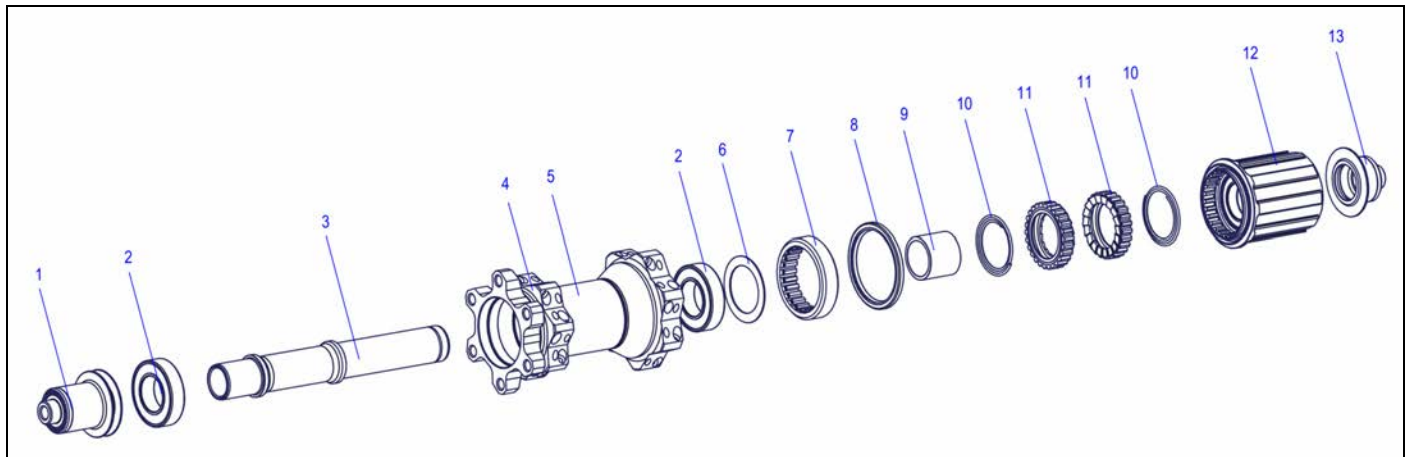

Figure 4-1: Overview: Ratchet System
1. Clamp the left end cap (fig. 4-1/1) into a vise.
3. Clamp the left end cap (fig. 4-1/13) into a vise.
5. Pull the rotor (fig. 4-1/12) off the hub.
6. Take the springs (fig. 4-1/10), the star ratchet (fig. 4-1/11) and the spacer (fig. 4-1/9) off the hub.
4. Put on the spacer (fig. 4-1/9) and the first spring (fig. 4-1/10). The big diameter of the spring must be placed on the bearing of the hub.
- Put on both star ratchets (fig. 4-1/11) and the second spring (fig. 4-1/10). The small diameter of the spring must be placed on the star ratchet.
- Grease both bearings and the contact surface of the end caps (fig. 4-1/1/13).
- Put both end caps (fig. 4-1/1/13) onto the hub.